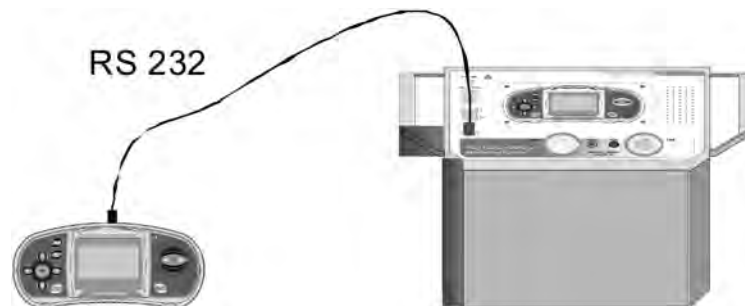

Fig. 20: RS-232 connection between units
- 6 Connect both meter and station units through the PS/2-RS-232 cable supplied as accessory (see Fig. 20)
- 14 Connect both meter and station units through the PS/2-RS-232 cable supplied (see Fig. 20)